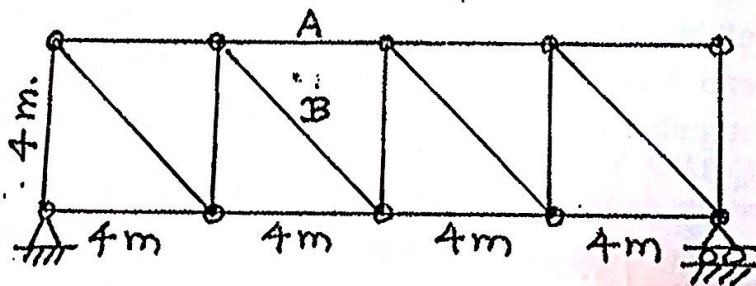

Fig. 9
- (b) Draw the Influence Line Diagrams for the forces in members A & B for the pin-jointed plane truss (Fig. 9).